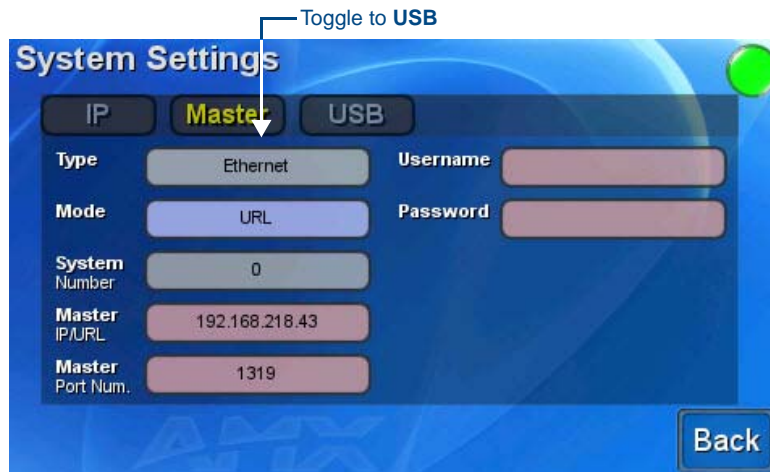

FIG. 21 System Settings page - using a USB Connection type
5. Select **Protected Setup > System Settings** to open the *System Settings* page (FIG. 21) and select the **Master** tab.